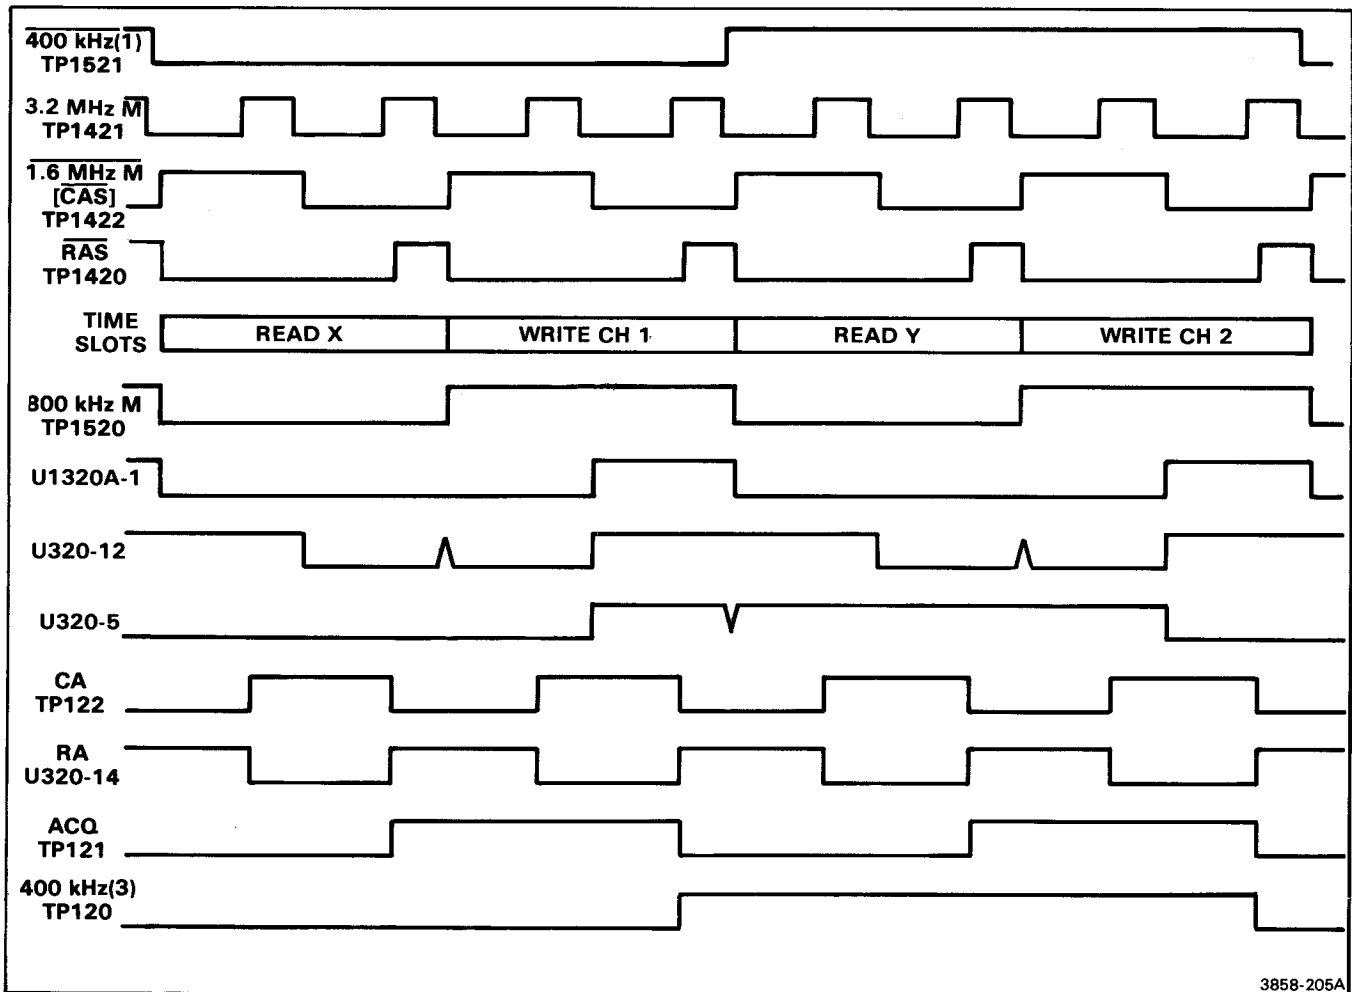

Figure 2-15. Memory timing signals.
The WFM completes one read/write cycle every 2.5  $\mu$ s for a rate of 400 kHz. Each read/write cycle is divided into four time slots (see Fig. 2-15): READ X, WRITE CH 1, READ Y and WRITE CH 2. During the READ X time slot, a byte of data is read from the WFM to be displayed on the X-axis of the mainframe crt; during the READ Y time slot, a Y-axis data point is read. Note that although X-axis data are always read, it is used only when displaying waveforms in the X-Y mode.
The  $\overline{3.2\text{MHz}}$ ,  $\overline{1.6\text{MHz}}$ ,  $\overline{800\text{kHz}}$  and  $400\text{kHz}(1)$  signals from the Time Base board supply the basic timing information for the Memory circuitry (see Fig. 2-15). The  $\overline{3.2\text{MHz}}$  and  $\overline{1.6\text{MHz}}$  signals are applied to inverter U1520E, inverter U1420D and gate U1320D to create the  $\overline{3.2\text{MHzM}}$ ,  $\overline{1.6\text{MHzM}}$  and row address select (RAS) signals.
Quad D-Type flip-flop U320 gates these signals through flip-flop sections 2, 3 and 4 to create additional special purpose timing signals: CA, RA, ACQ and 400kHz(3). Figure 2-15 shows the input and output timing relationship of these signals.
A positive-going edge on the pin 14 clock input to each counter device clocks the device one count. Two clock modes are provided: continuous and single step. In the continuous mode, the 400kHz(3) clock signal clocks the counters once every 2.5  $\mu\text{s}$ , just before the beginning of the READ X time slot (see Fig. 2-15). In the single step mode, the display address generator singlestep enable ( $\overline{\text{DAGSSE}}$ ) line is pulled low, which blocks the 400kHz(3) clock from being applied to the counter devices. The display address generator single step (DAGSS) line then controls the clock inputs to the counter devices, allowing the microprocessor to single-step the counters.